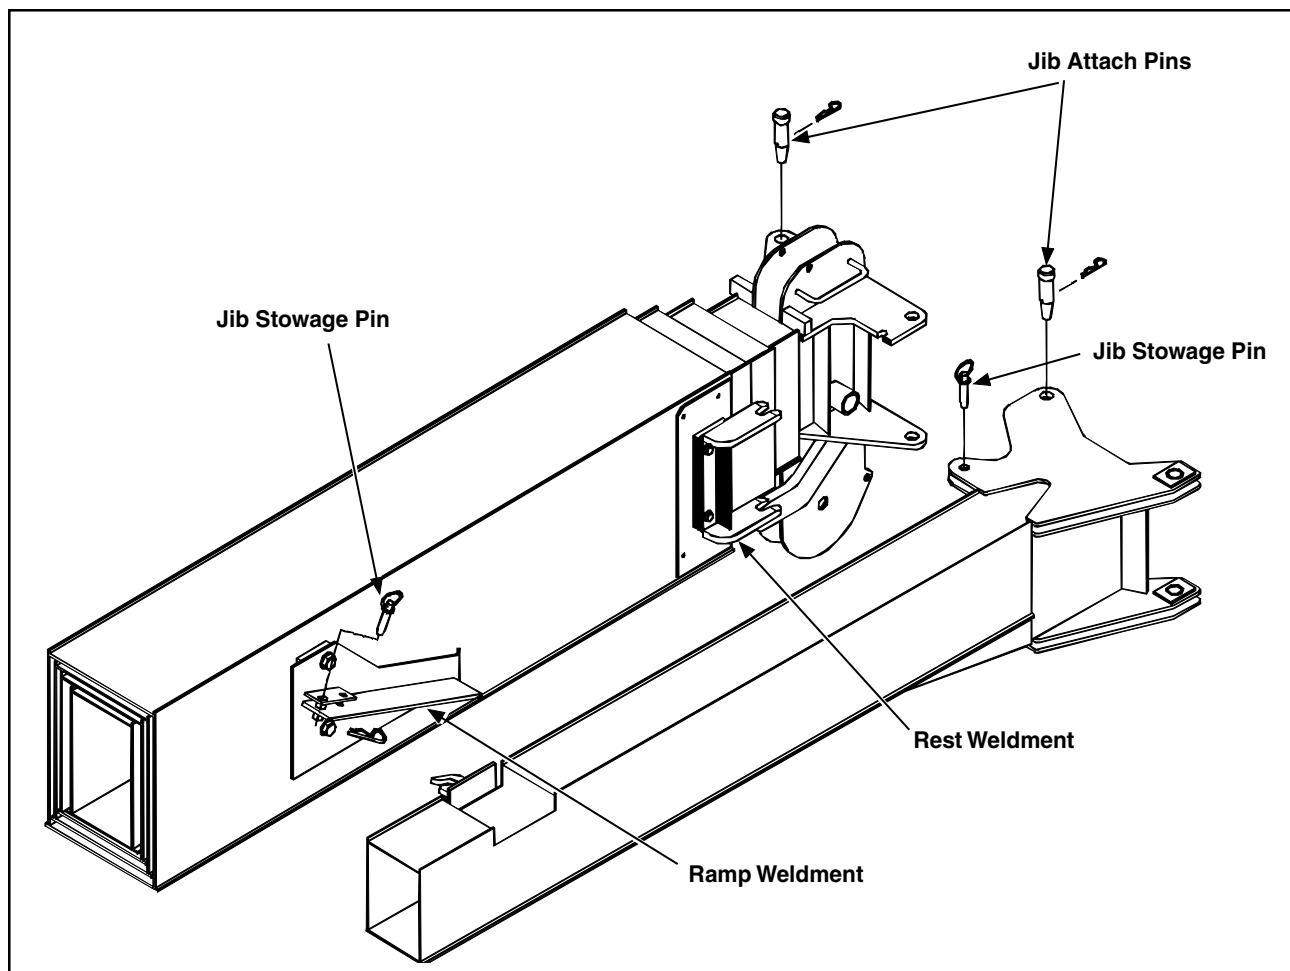

Figure 3-5. Telescoping Jib Pin Installation
8. Reinstall anti-two-block counterweight around the hoist cable (as shown in Fig 3-5) and adjust counterweight chain length to activate cutoff switch before two-blocking occurs. A minimum of 14 in. is recommended.